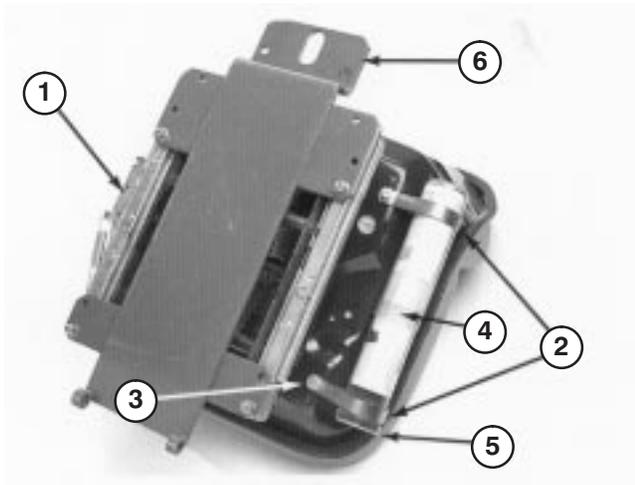

Figure 11
7. Mount seat suspension assembly to (4) capscrews on seat bottom and secure with (4) lockwashers, flatwashers and nuts (Fig. 11).
8. Loosely secure (2) R-clamps to right side of seat bottom with (2) capscrews and flatwashers supplied in kit (Fig. 11). Install manual tube into R-clamps and tighten capscrews (Fig. 11).
9. Mount seat support over four threaded studs at the bottom of seat suspension assembly and secure in place with flangenuts (Fig. 11).